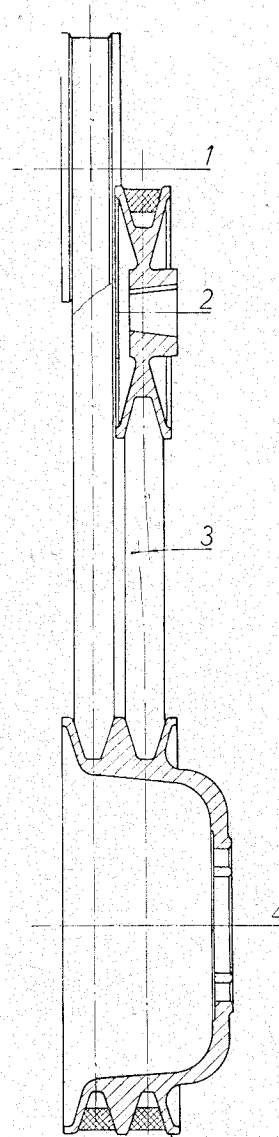

Fig. 45.
14. After having checked the belt pulleys for correct alignment (see Fig. 45 - permissible out-of-line of the belt pulleys ± 0.5 mm or .0197" maximum (tighten the adjuster screw of the dynamo securing strap.